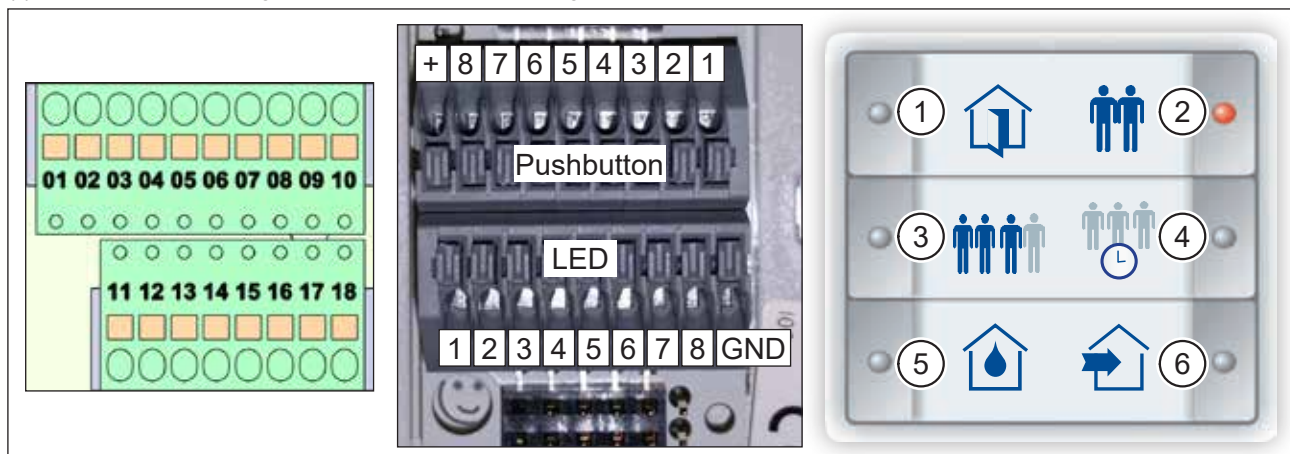

Fig. 31: Terminal blocks on ventilation unit, terminal blocks on InControl pushbutton sensor, insert sheet
- ▶ After wiring, place the insert sheet (Fig. 31) in the InControl pushbutton sensor.